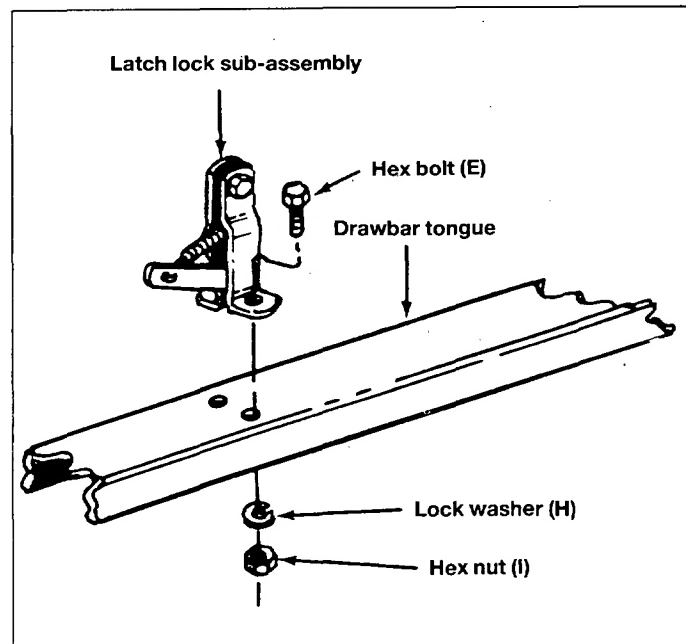

Fig. 13
18. Assemble latch lock sub-assembly to draw bar tongue using 1/4" x 5/8 (6 x 16 mm) long hex bolt (E), lock washers (H) and hex nuts (I). See figure 13.